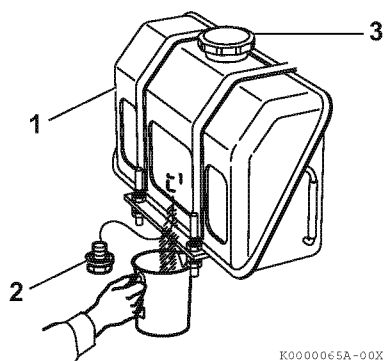

Figure 5-8
1. Position an approved container under the diesel fuel tank (**Figure 5-8, (1)**) to collect the contaminates.
2. Remove the fuel cap (**Figure 5-8, (3)**).
3. Remove the drain plug (**Figure 5-8, (2)**) of the fuel tank to drain the contaminants (water, dirt, etc.) from the bottom of the tank.